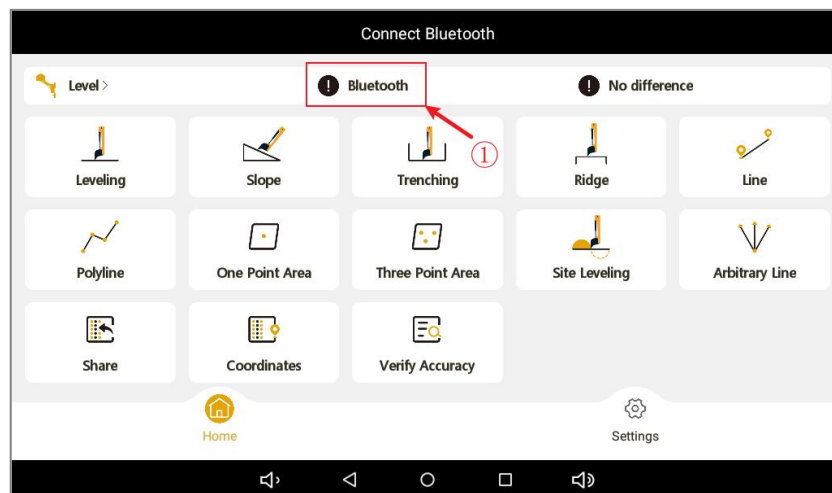
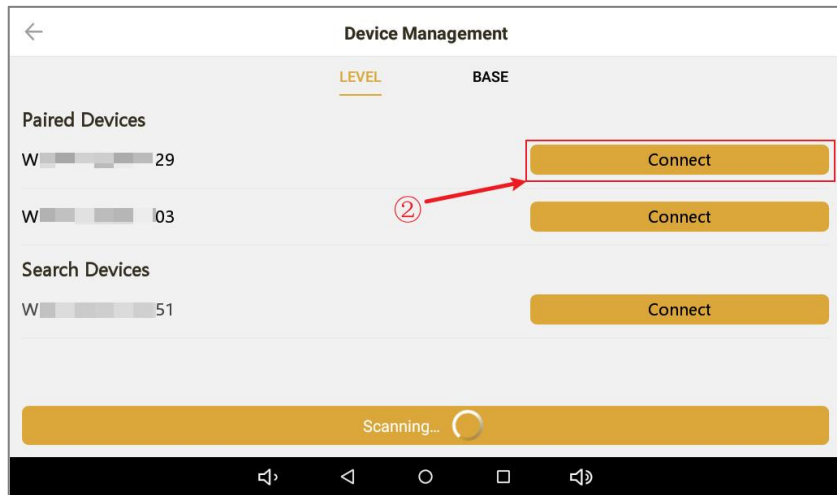

Figure 2-2
Figure 2-3
(1) Simultaneous configuration of base station and leveling instrument:
- ① Connect to the leveling instrument via Bluetooth: Press and hold the power button on the leveling instrument to power it on. Open the APP and tap Bluetooth, as shown in Figure 2-2. This enters the Device Management screen, as shown in Figure 2-3. Tap Connect next to the corresponding SN number. The leveling instrument SN is printed on the device label.
(2) Separate configuration of base station and leveling instrument:
- ① Configure the base station independently: Follow steps 2 through 4 in the simultaneous configuration section (1) of this subsection, with reference to Figure 2-3 through 2-12.